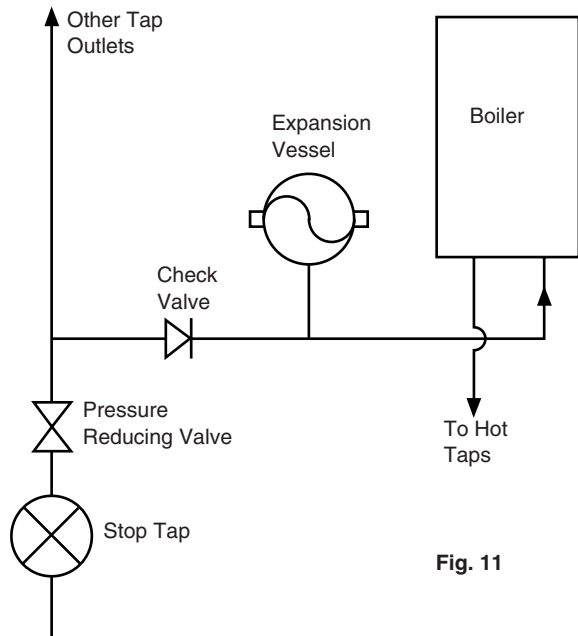

Fig. 11
3. A single check valve must be fitted as shown in Fig. 11 to prevent backflow to the supply pipe and to ensure the efficient operation of the expansion vessel which is required to accommodate the thermal expansion of the water.